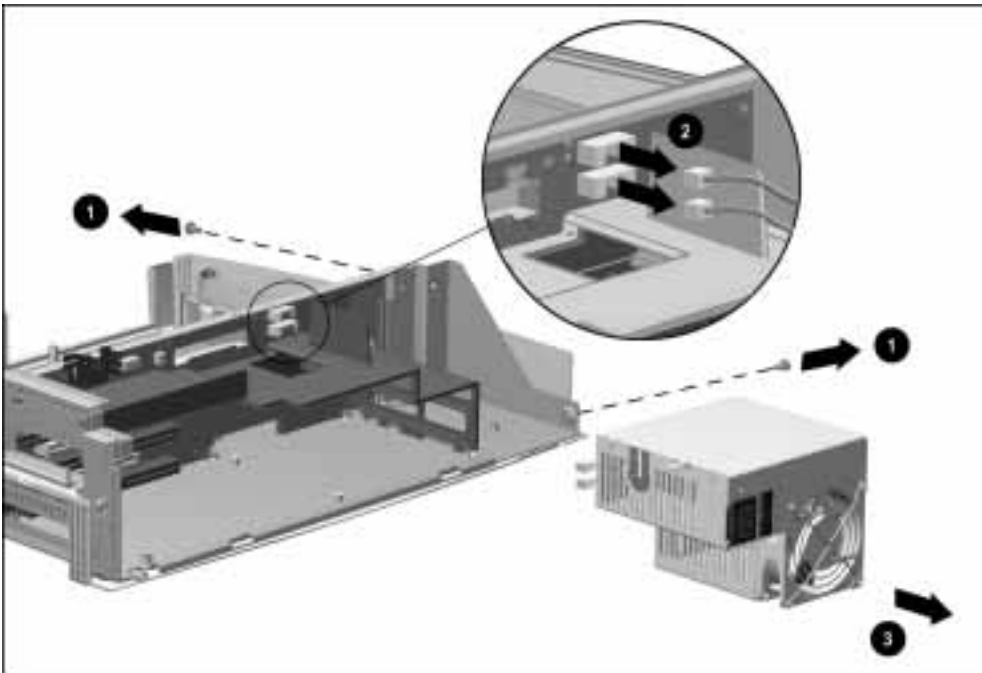

Figure 5-53. *Removing the Power Supply*
7. Remove the two screws ❶ securing the power supply to the backplane assembly and base assembly (Figure 5-53).
8. Disconnect the two cables attaching the power supply to the backplane assembly ❷.